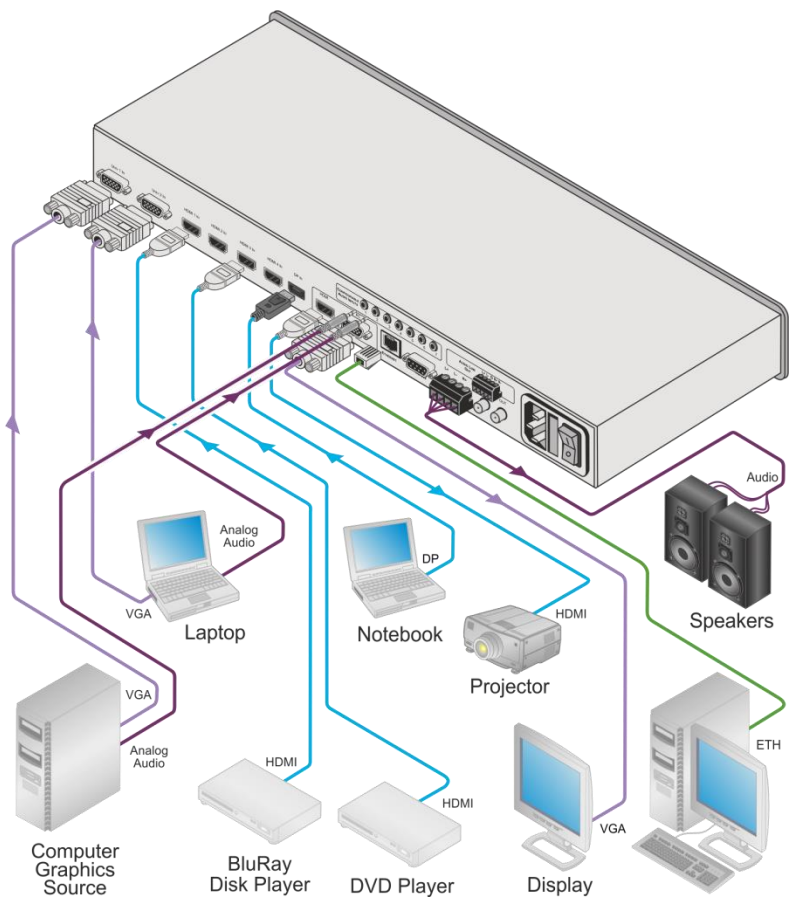

Figure 3: Connecting to the VP-734 Rear Panel
To connect the **VP-734** as illustrated in the example in Figure 3, do the following:
2. Connect the analog stereo inputs (from 1 to 7), not shown in Figure 3.
4. Connect the S/PDIF IN RCA connector to a digital audio source (for example, a DVD player), not shown in Figure 3.
The USB connector, audio sources and acceptors, and power cord are not shown in Figure 3.